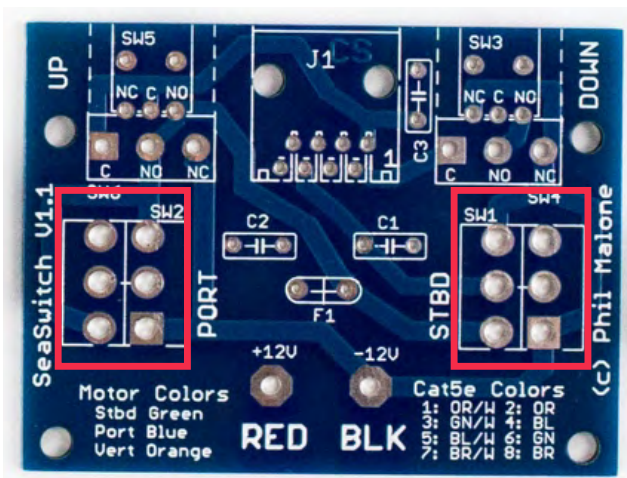

Figure 14
- ❑ Place the switches in the SW1 and SW2 locations on the component side of the PCB. (Figure 14 & 15)